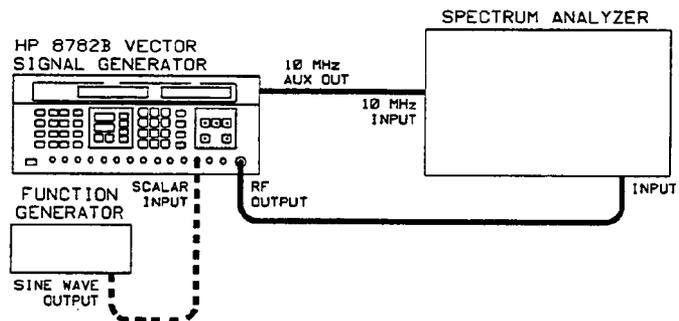

Figure 5-25. Frequency Response Test Setup
1. Connect the Vector Signal Generator RF output to the spectrum analyzer as shown in Figure 5-25. Do not connect the function generator until the correct voltage settings are made.